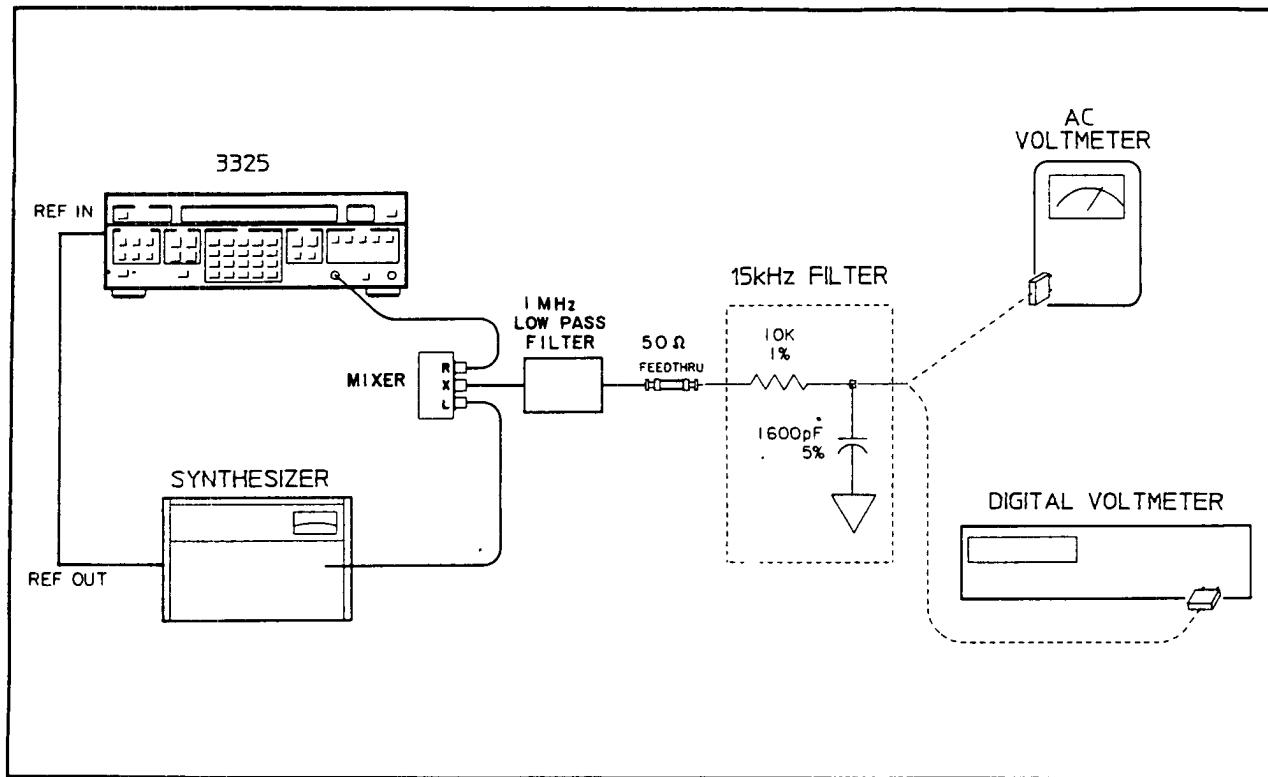

Figure 4-8. Integrated Phase Noise.
- Capacitor: 1600 pF $\pm 5\%$ (see figure 4-8)
- a. Connect the equipment as shown in figure 4-8, connecting the 15 kHz noise equivalent filter output to the ac voltmeter. Phase lock the HP 3325B and the signal generator together.